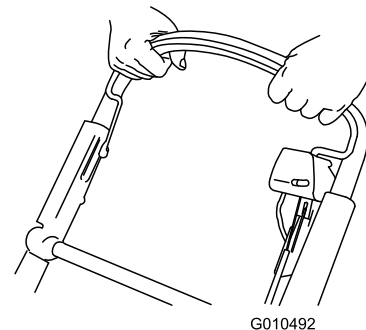

Figure 26
2. Hold the blade-control bar against the handle (Figure 26).